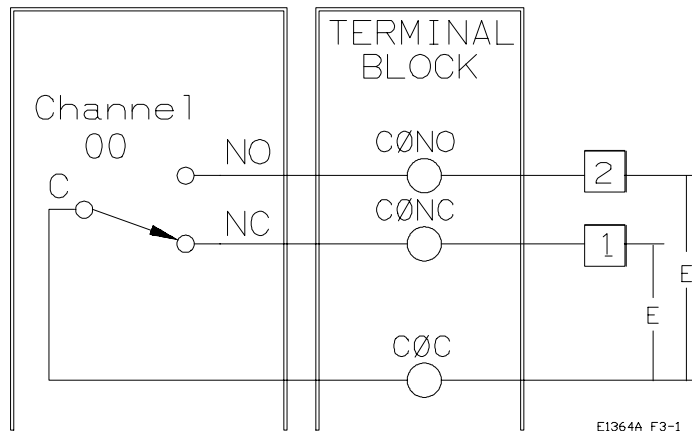

Figure 3-1. Example: Voltage Switching
This example closes channel 00 of a Form C Switch to switch the load voltage (E) from Load 1 to Load 2. When the channel relay is open, the load voltage is applied to Load 1. When the relay is closed, the voltage is applied to Load 2. See Figure 3-1 for typical user connections. To close channel 00, execute: